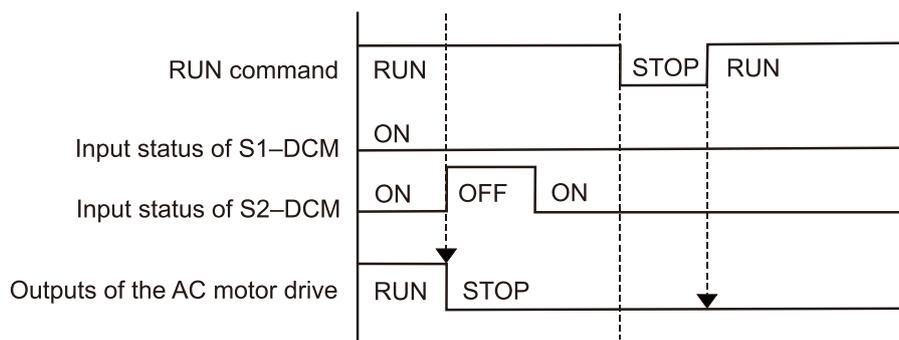

Figure 15-9
When S1-DCM is ON during operation (STO function is not required) and S2-DCM is OFF (STO function is required), the drive stops outputting and the keypad shows the STL2 error. You cannot reset the STL2 error even if the S2 status is restored (ON) regardless of the parameter setting. See Figure 15-9. You must cycle the power to reset and to restore the drive to the normal standby state.